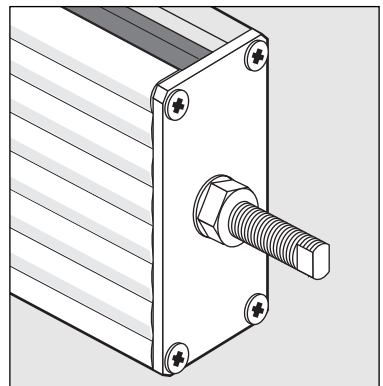

Fig. 8 Tracking adjustment
- (9) Adjust the front roller using the pusher-rods on the ends of the side channels until the fabric sags evenly on both sides. This indicates that the roller is at right-angles to the fabric. Increase the travel until the blind is 100mm from the return pulleys.
- (10) Move the back roller or spring roller until there is about 10mm slack in the drive chain.
- (11) Move the blind back about 1m from the fully extended position and increase the tension until the hem-bar does not sag more than 50mm and does not touch the return cable below. This is the correct tension setting. Any further increase in the tension will only stretch the fabric. Test the blind by driving it fully in and fully out.
- (12) Fit the boat-type end caps to the hem-bar and retain them in position with self-tapping screw.
- (13) Finally, run the blind back in. If it does not roll up within approximately 15mm of each end of the roller, it is because the fabric roller setting is still incorrect. Only very small movements of the roller are required to affect the evenness of the roll-up.
- (14) Check all fasteners on the system are tight. Tighten the locking nuts on the pusher rods. Fig 8.